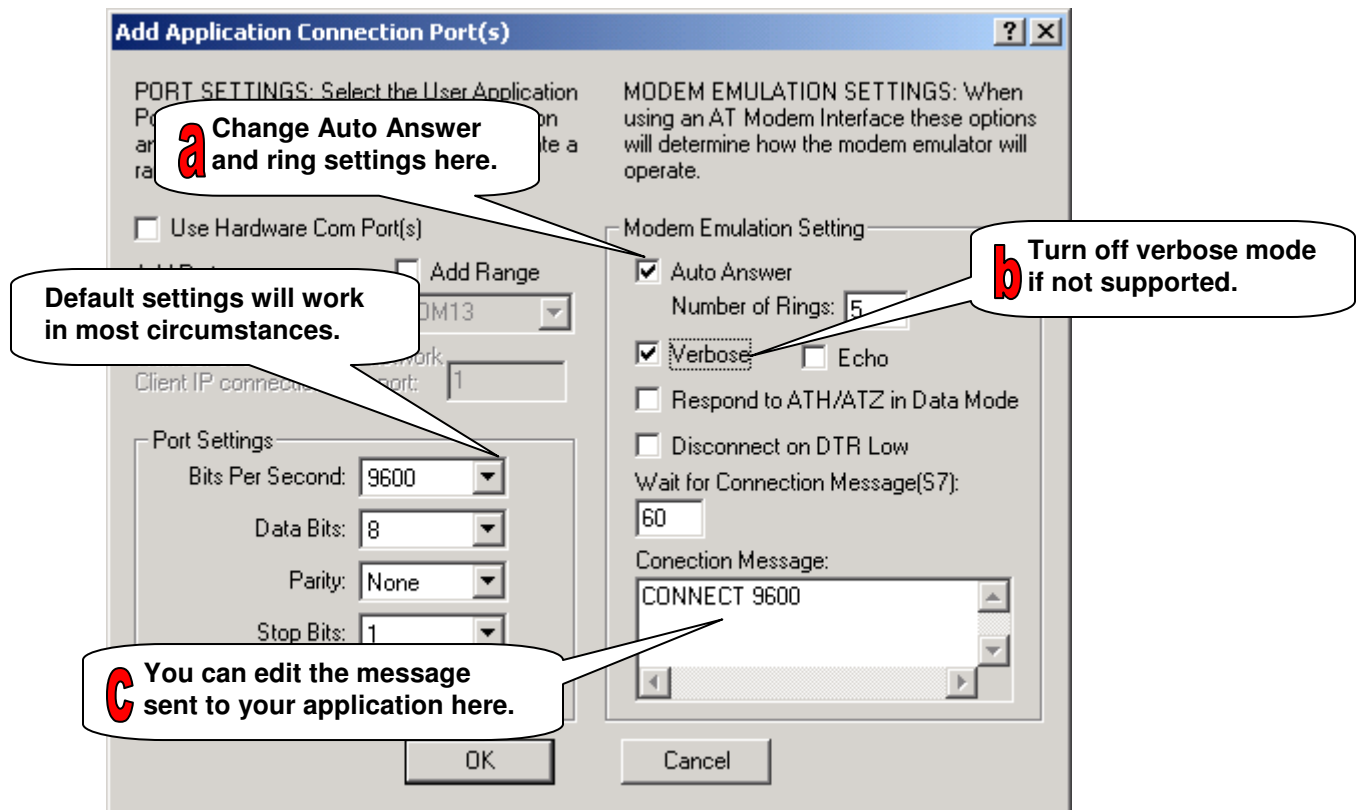

Figure 18 – InvisiConnect™ Configuration – COMs for Applications
5. Now you can configure the specific modem settings for this port. Refer to Figure 18. Note that these options are only available if you chose *Standard AT Modem* for the type of connection. These settings should reflect what your application expects regarding communications. If you have any questions about the AT command set, refer to your application or modem user guide for explanations.